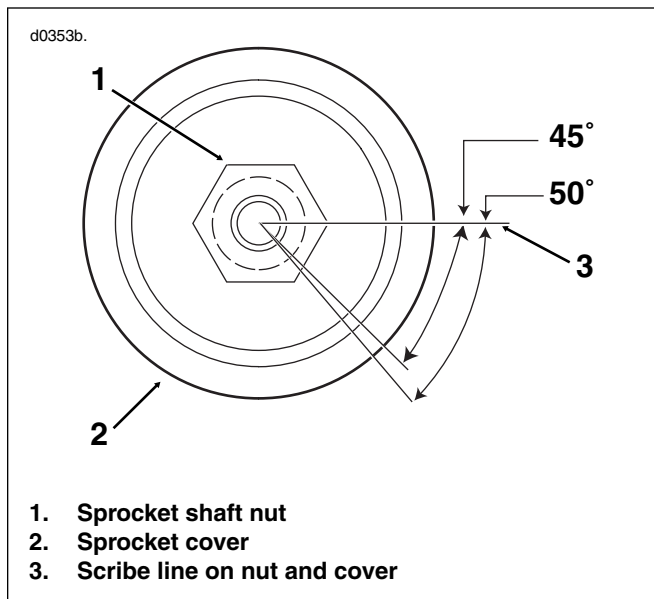

Figure 3. Turn-of-nut Final Tightening
5. See Figure 3. Scribe a line (3) on the sprocket shaft nut (1). Continue the line on the sprocket cover (2) as shown.